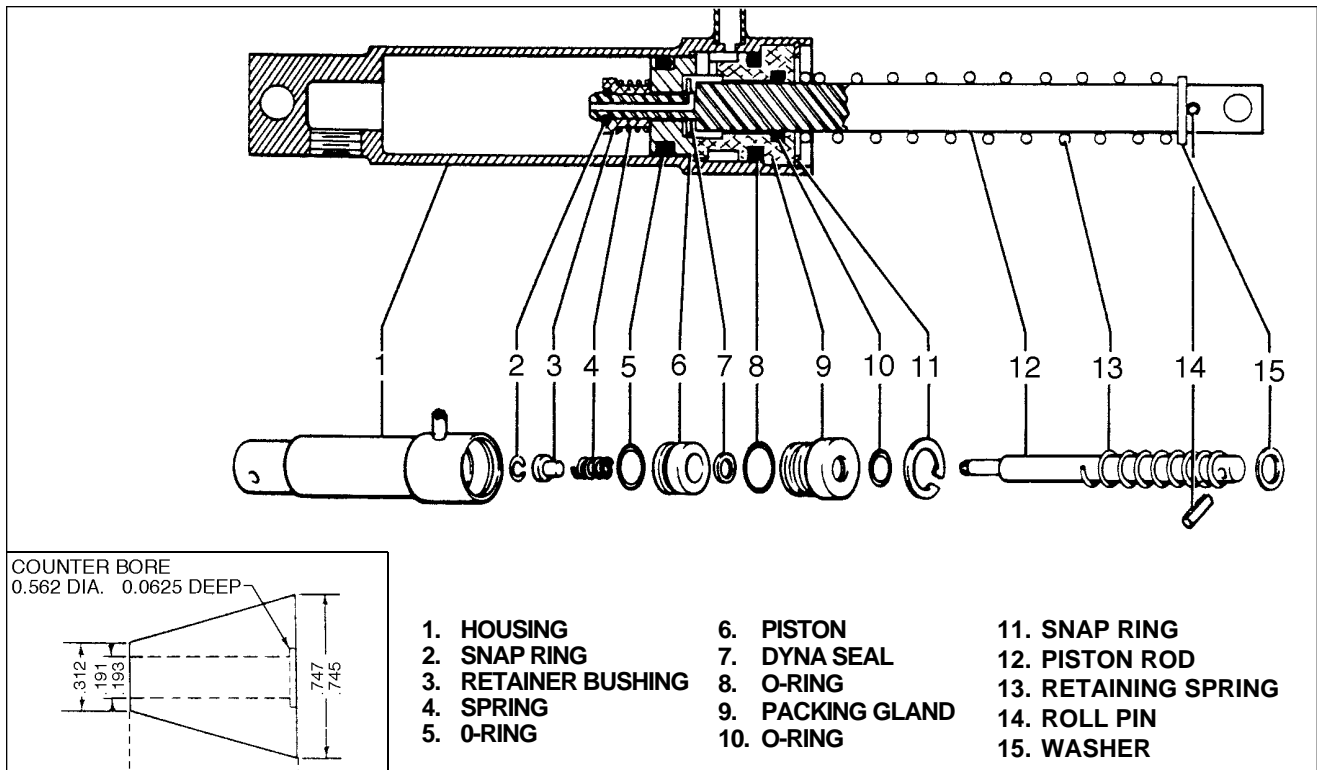

Figure 7-13. Brake Master Cylinder (Hand/Parking Brake)
### 7-35. DISASSEMBLY OF BRAKE MASTER CYLINDER. (Refer to Figure 7-13.)
7-37 ASSEMBLY OF BRAKE MASTER CYLINDER. (Refer to Figure 7-13.)
a. Install new O-rings on the inside and outside of the packing gland (9) and on the outside of the piston (6). (When installing teflon O-ring (5) on piston, it is recommended that it be installed with the use of a cone placed against the piston. The cone may be constructed of plastic or metal from dimensions shown in Figure 7-13.)
b. To assemble the piston rod assembly, install the following parts on the rod (12) in order, the roll pin (14), return spring retainer washer (15), return spring (13), packing gland (9) with new O-rings, seal (10), piston (6) with new O-ring, spring (4) and retainer bushing (3). Secure these pieces with the small snap ring (2) on the end of the rod.
c. Insert the piston rod assembly in the cylinder (1) and secure the packing gland with snap ring (11).